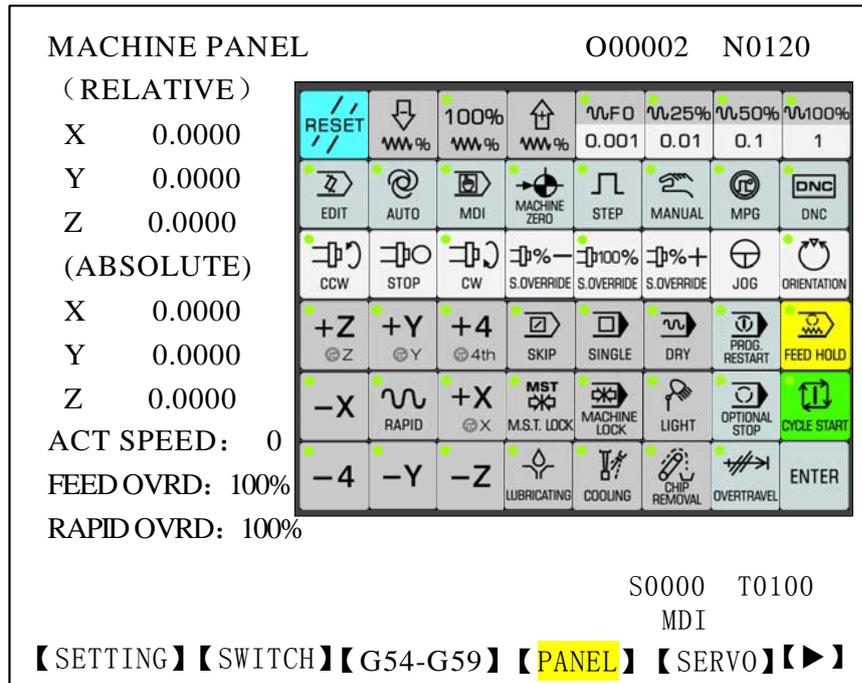

Fig. 3-5-4-1
1. Press 【PANEL】 soft key to enter machine panel page, which is shown as following(See Fig. 3-5-4-1):